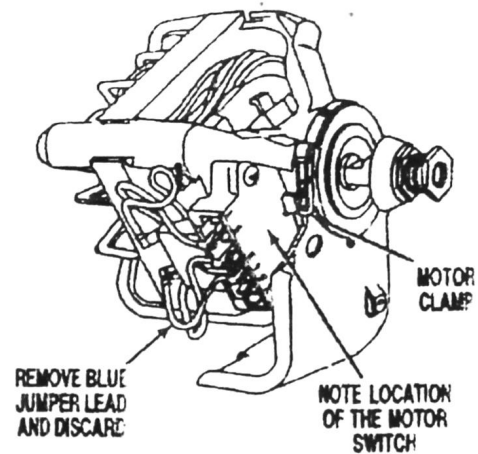

FIGURE 5
- Position motor as shown in Figure 5. Note the location of the motor switch. Secure motor to bracket with the original motor clamps.
10. Disconnect and remove the blue jumper wire that runs from the motor switch to the overload and discard. See *Figure 5*.